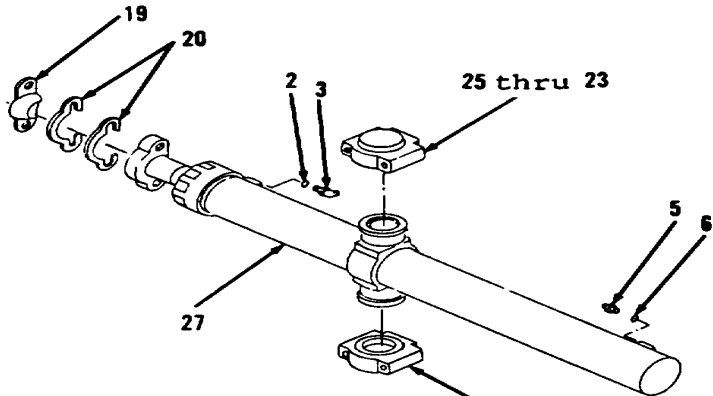
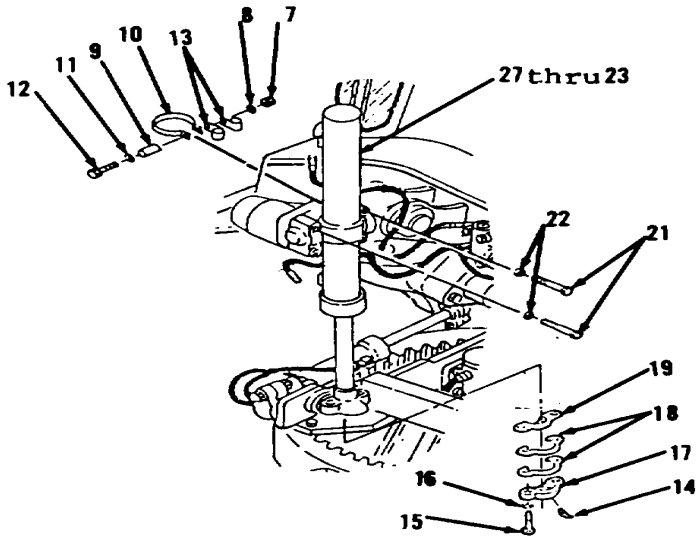

Figure 10-134. 25 thru 23
Figure 10-135.
5. Position items 25 thru 23 as an assembly on cylinder (27, Figure 10-134).
6. Install new preformed packing (6), elbow (5), new preformed packing (3) and connector (2) on cylinder (27).
7. Attach hoist and sling to cylinder (27).
8. Lubricate ballstud and two inserts (19) with clean grease after surfaces are wiped cleaned.
9. Install two shim(s) (20) and one of two inserts (19) on cylinder (27).
10. Using hoist and sling, position items 27 thru 23 as an assembly (Figure 10-135).
11. Install one of two inserts (19), two shim(s) (18), cap (17), two lockwashers (16), bolts (15) and fitting (14).
12. Check ballstud and two inserts (19) for excessive clearance between ballstud and surrounding parts by moving cylinder assembly (27). If ballstud or two inserts (19) have become sufficiently worn, excessive clearance may be seen between ballstud and surrounding parts. One or more shim(s) (18 or 20) may be removed to reduce unwanted clearance. When removing two shim(s) (18 or 20), remove one shim from each side of ballstud.
13. Install four washers (22) and bolts (21) in two caps (23). Tighten four bolts (21) to 95 ft-lb torque.